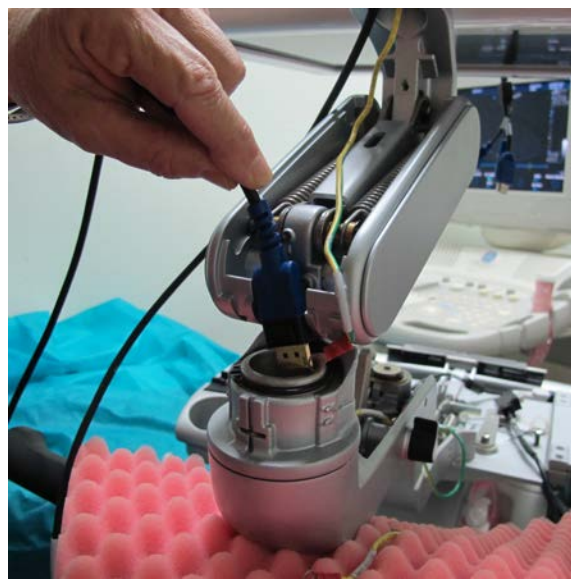
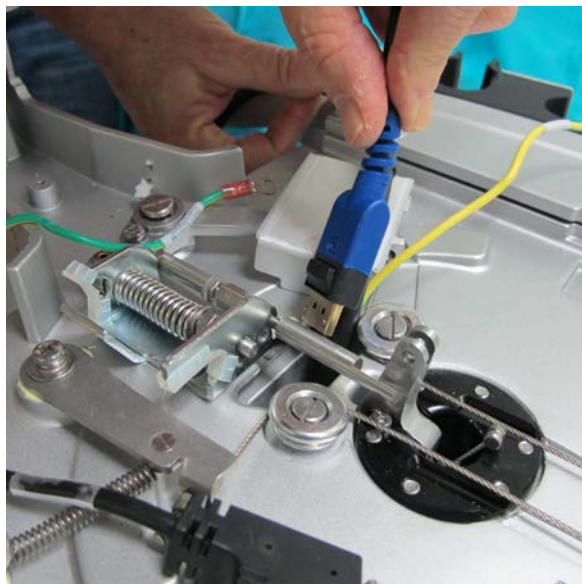

Figure 8-92 Feeding Cables through Top Aperture
Figure 8-93 Feeding Cables through OPIO Aperture
- 1.) Thread the blue main display cable downwards through the top articulated arm aperture and lead the cable through to the lower articulated arm aperture downwards towards the OPIO platform - refer to Figure 8-92 below and Figure 8-93 below.
- 2.) Continue and lead the cable's BIF connector through the OPIO aperture towards the Internal BIF Panel as shown in - Figure 8-93 below.